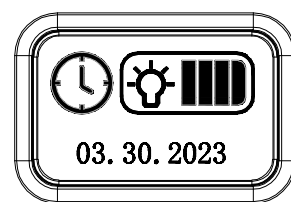

Figure 4
- (2) ⌚ Timer switch button, press this switch to start the timer function of the light. Press this button to enter the interface of timing function. Press this key repeatedly to set the timing period to a cycle of 12 hours to 0 hour (figure 4)! Hold down this key for 3 seconds to disable the timing function (figure 5)